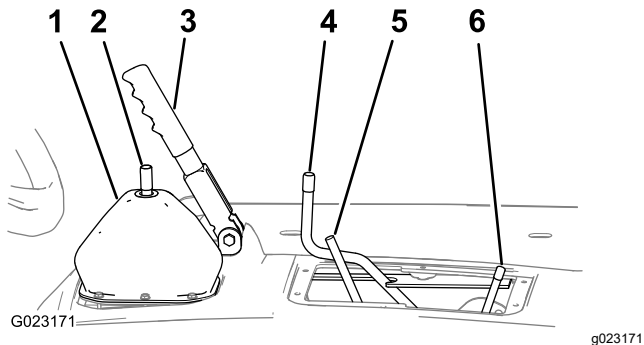

Figure 11
1. Ensure that the parking brake is set (Figure 11).
2. Move the rod for the differential lock forward and to the right (Figure 11).